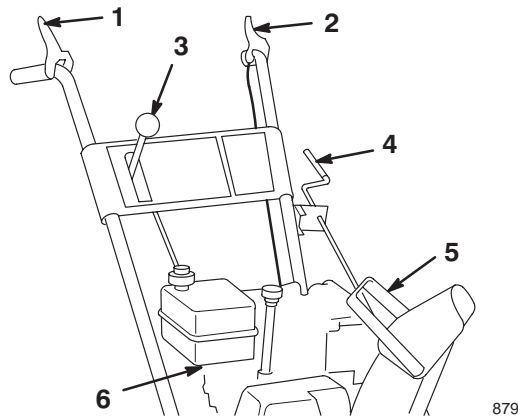

Figure 13
- **Auger/Impeller Drive Control Lever** (Fig. 13)—To engage both the auger and impeller, press the lever against the right handgrip. To disengage, release the lever.
- **Traction Control Lever** (Fig. 13)—To engage the traction (wheel drive), press the lever against the left handgrip. To stop the traction, release the lever.
- **Speed Selector** (Fig. 13)—This control has four positions: three forward speeds and one reverse. To change speeds, move the speed selector to the desired position. The lever locks in a notch at each speed selection.
- **Discharge Chute Control** (Fig. 13)—Rotate the discharge chute control clockwise to move the discharge chute to the left; counterclockwise to move the chute to the right.
- **Chute Deflector Handle** (Fig. 13)—Move the deflector handle forward to move the snow stream down; move it rearward to move the snow stream up.
- **Fuel Shutoff Valve** (Fig. 13)—Close the valve by rotating clockwise. Open the valve by rotating it counterclockwise. Close the valve when you do not use the snowthrower.
3. Release the auger/impeller drive control lever and the traction control lever (Fig. 13).
11. Move the speed selector (Fig. 13) to first gear, squeeze the traction control lever to the handgrip, and then release the traction control lever. If the snowthrower moves forward before engaging the traction drive control lever or after releasing the lever, see Adjusting the Traction Drive on page 21.